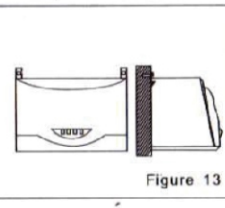

Figure 13
(5) Fit the textile board into the central expansion bolt and make it close to the organism (shown in figure13)